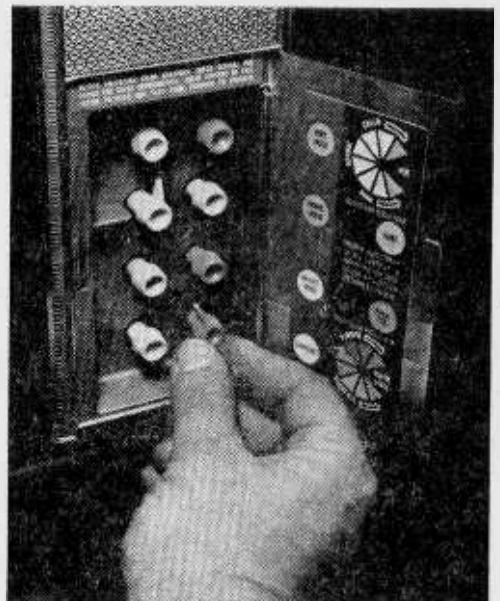

Fig. 3. All conventional controls—hold, width, linearity, etc. must be carefully adjusted first.
**1. Conventional Adjustments.** These are the familiar controls found on all TV receivers, monochrome or color. They include height, width, focus and linearity (see Fig. 3). Unless preset for proper performance, adjustments which control color will be seriously affected. Even setting of horizontal and vertical hold controls should be done with care. Misadjustment of horizontal hold can cause fanning out at the top of the picture, while a vertical hold set improperly may produce slanting retrace lines. (A suitable crosshatch pattern from the color generator can serve as a guide for these initial picture adjustments.)